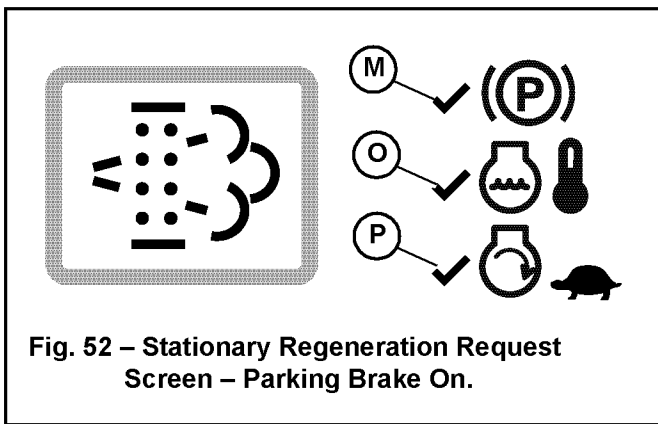

Fig. 52 – Stationary Regeneration Request Screen – Parking Brake On.
- a. Apply the parking brake using the parking brake switch or by lifting the safety bars/arm rests. A checkmark (M, Fig. 52) is displayed next to the parking brake icon in the middle of the stationary regeneration request screen.